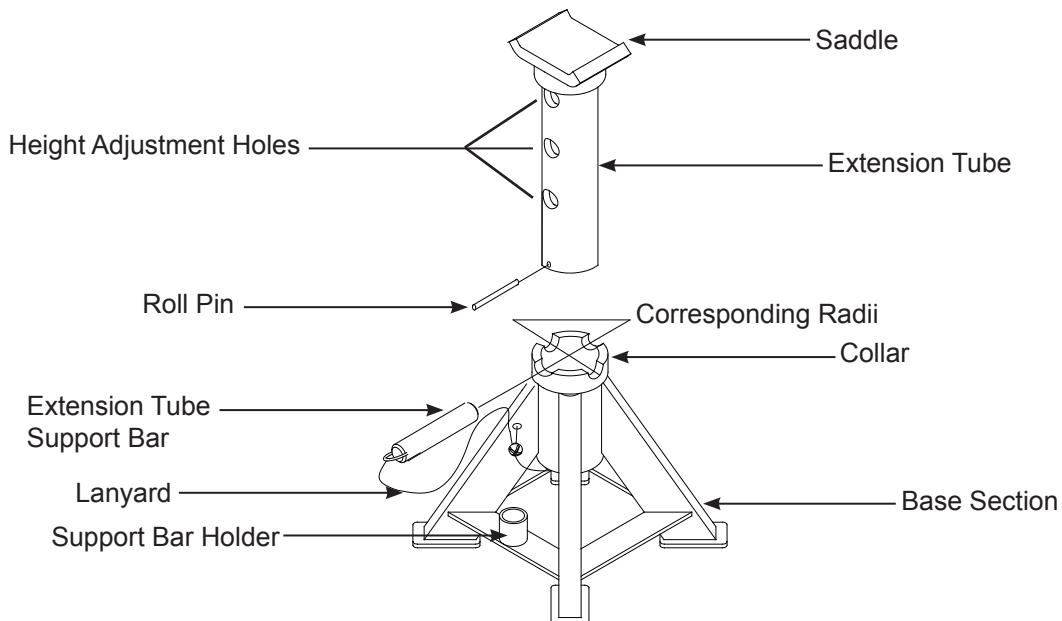

Figure 1 - Model 32075B Components
2. Ensure that support bar is secured and nested across two corresponding radii (see Fig. 1) before loading. Insert support bar into the extension tube far enough to create equal distance of bar extending from the extension tube on both sides.